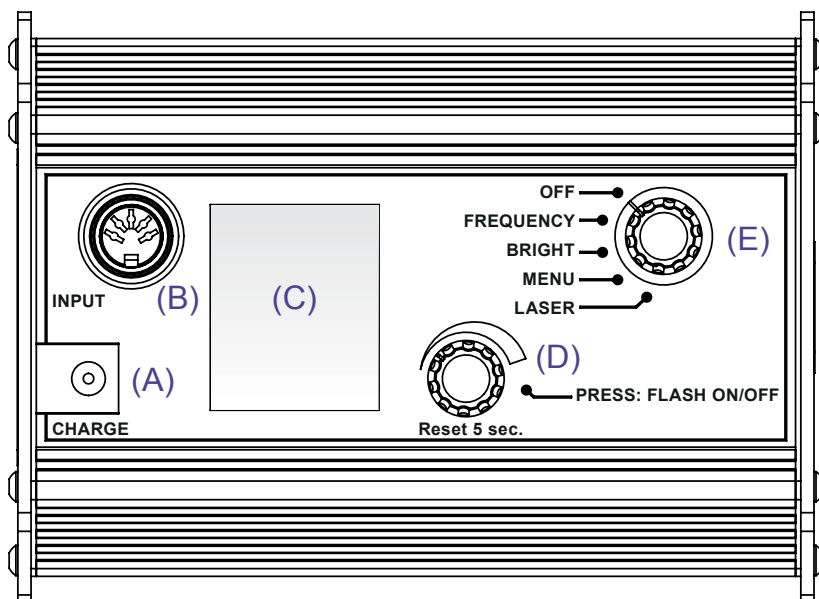

Fig.1 - Stroboscope QB-LED and QBS-LED
3.1 Connectors (see Fig. 1)
1. Charge the device by plugging the charger into the **CHARGE (A)** socket to the rear of the device (see Fig. 1)
2. Direct the device at a moving object and switch it on. Turn the selector switch (E) one notch to the left to **“FREQUENCY.”**